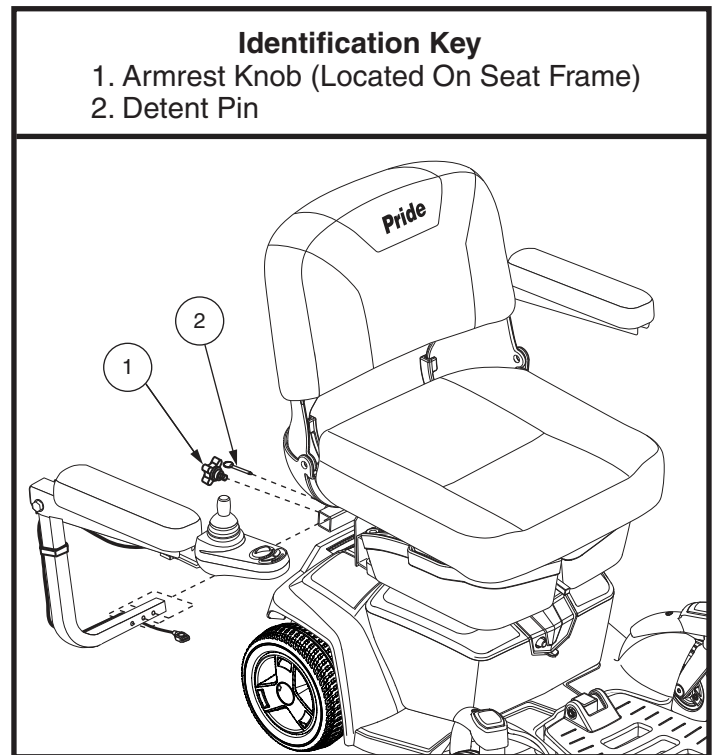

Figure 9. Armrest Width Adjustment
1. Locate the two armrest knobs on each side of the seat frame. **See figure 9.**